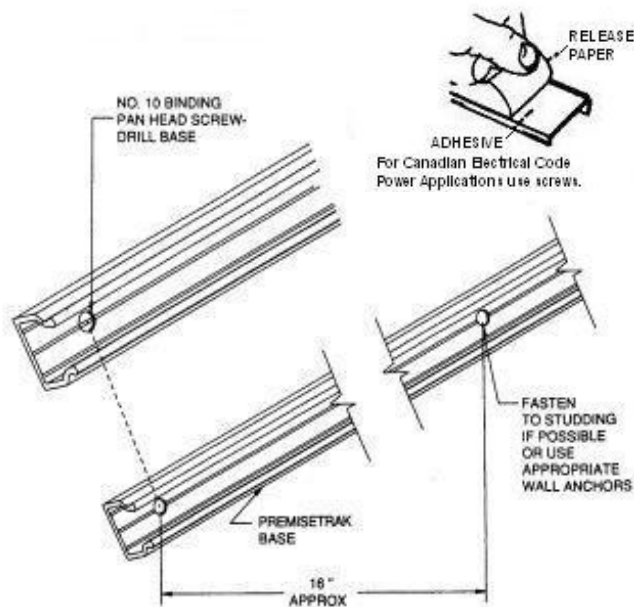

FIG. 6 Mounting PREMISETRAK Base...
- Cut PREMISETRAK base sections to length as required. Align base sections with ends abutting, drill and fasten to surface as in fig. 6.